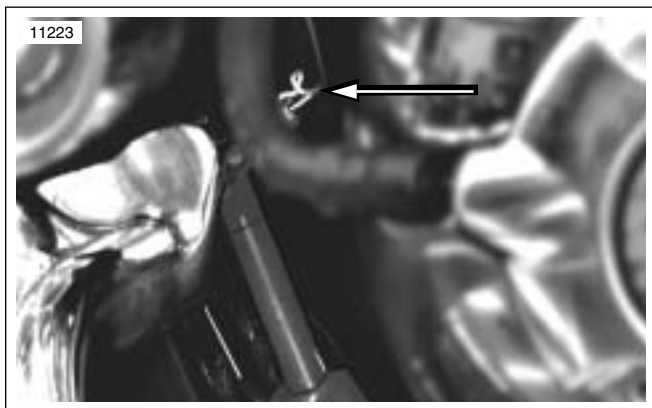

Figure 2-39. Master Cylinder Brake Pedal Clip
- See Figure 2-39. Remove master cylinder brake pedal clip
- Remove footrest and control as a unit by removing cap-screw (7) from footrest bracket (8).
- Slowly pull footrest/control assembly away from motorcycle working master cylinder rod free from brake pedal (9).
- To install footrest and control as a unit, position brake pedal (9) to motorcycle and insert master cylinder rod into brake pedal.
- See Figure 2-39. Install master cylinder brake pedal clip.